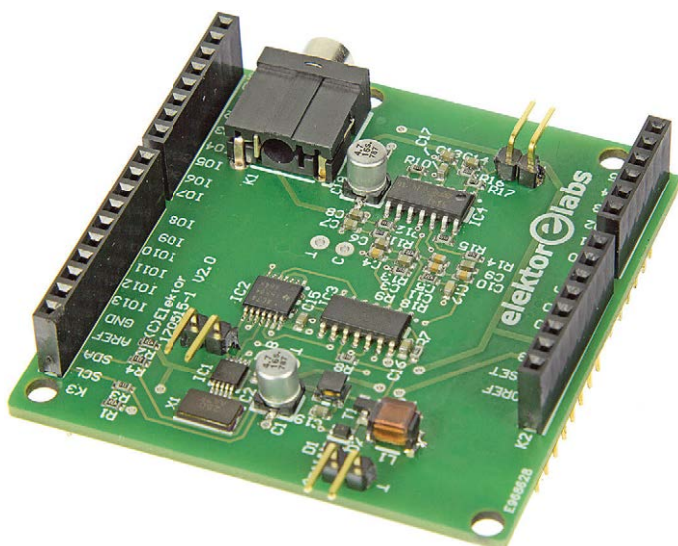

Figure 2. Pinheaders installed.
**Figure 2** illustrates the Shield and the 90-degree pinheaders for connecting the